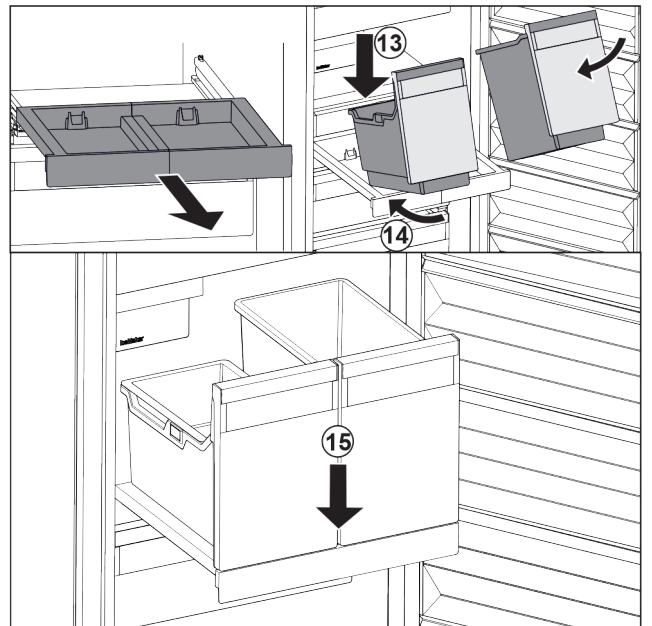

Fig. 35
- ▶ Place the container at an angle on the pull-out board. Fig. 35 (13)
- ▶ Slide in the container at an angle to the back. Fig. 35 (14)
- ▶ Place container at the front. Fig. 35 (15)